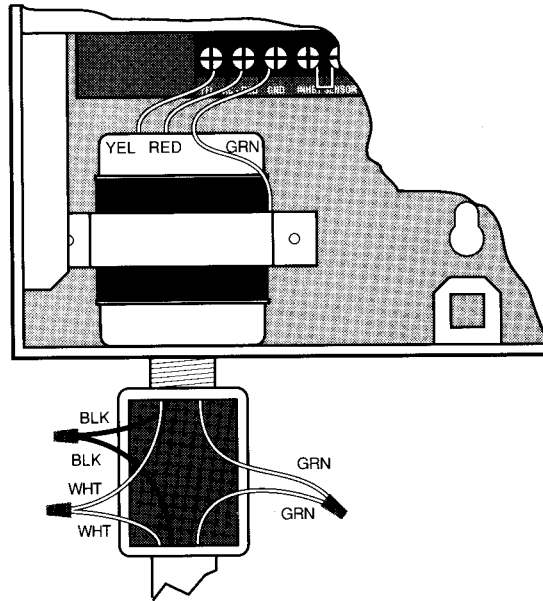

Figure 1. Electrical Hook-ups
2. Verify that the yellow and red wires of the transformer are connected to the 24-volt AC input on the terminals of the controller (see figure 1, page 6). Connect the black and white wires of the 120 volt AC, 60 Hz power supply to the black and white wires of the transformer (see figure 1).
2. Following the wiring diagram in figure 1, insert straight bare wire between the plates of the “sure grip” terminal. Connect one solenoid wire to the station terminal and the other to common. Tighten screws firmly.